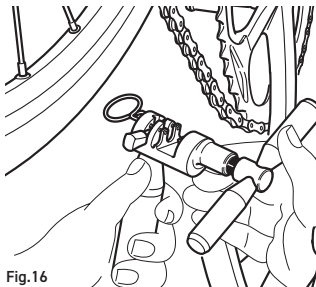

Fig.16
- Position the tool **UT-CN400** as indicated in Fig. 16 (from the outside of the chain towards the inside).